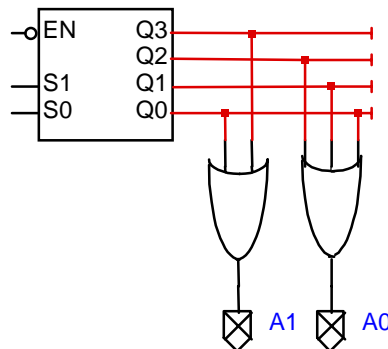

Figure 3: ROM example
For this example, our ROM lookup table has four entries. Each row in Table 1 is one entry, ($n=2$ select lines means you can select one of $2^n=4$ rows) with two bits per entry. The goal is to output (*A1*, *A0*) when the corresponding row is selected by (*S1*, *S0*). This can be done with the circuit shown in Figure 3. Since an OR gate only needs one input to be active in order for the output to turn on, the circuit is built by simply connecting a wire corresponding to each 1 in the table. For example, when $S1=S0=1$, *Q3* becomes active ($Q3=1$) and all other lines are zeros.
- Design a decoder-based ROM similar to Fig. 3 for the look-up table below.